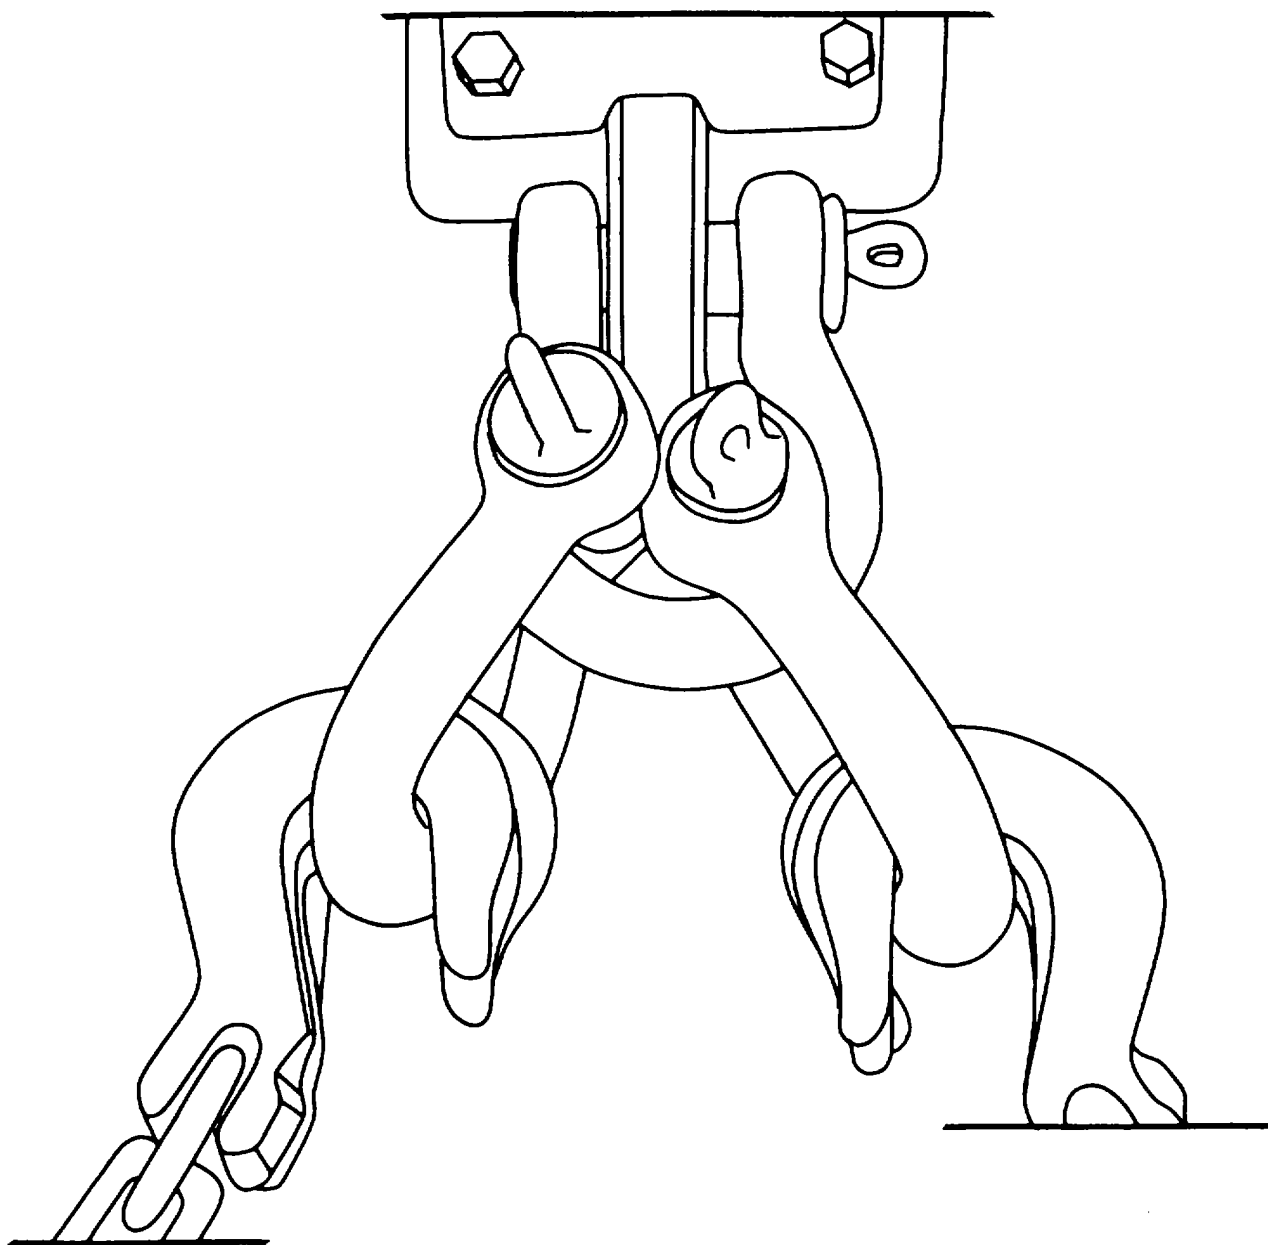

Figure 6-6. Three-shackle arrangement for center-front tiedown of M88.
**Two additional shackles may be substituted for the ring at the center-front tow lug (see fig 6-6).